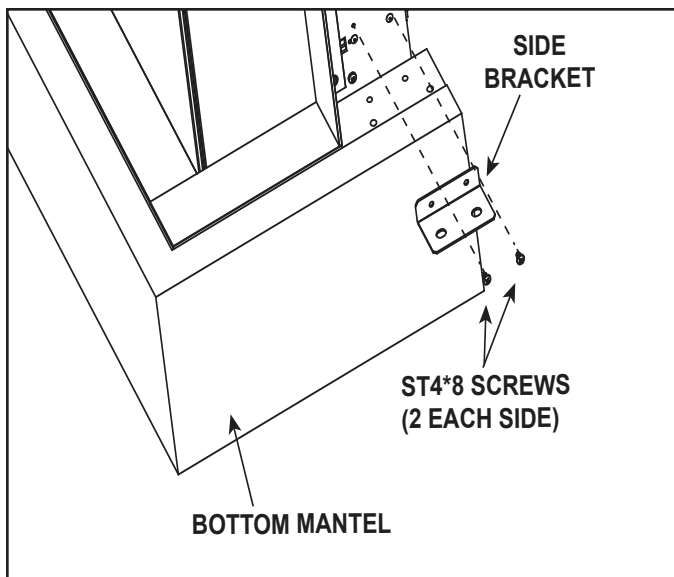

Figure 16
5. Attach two (2) side brackets to the rear sides of the appliance using four (4) ST4\*12 screws. See Figure 16.